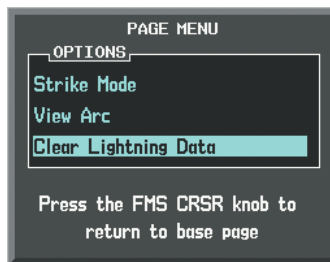

Figure 6-118 Navigation Map Page Options Menu
If heading input is lost, strikes and/or cells must be cleared manually after the execution of each turn (Figure 6-118). This is to ensure that the strike and/or cell positions are depicted accurately in relation to the nose of the aircraft.
- 3) Select 'Clear Lightning Data' (Figure 6-118).